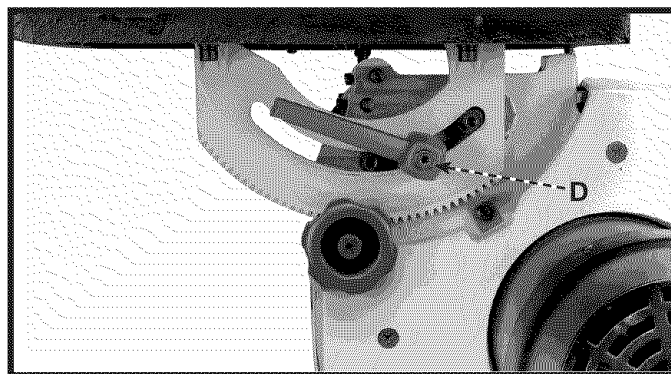

Fig. 13A
6. Re-assemble the screw (D) Fig.13A and tighten using 4mm hex wrench provided.